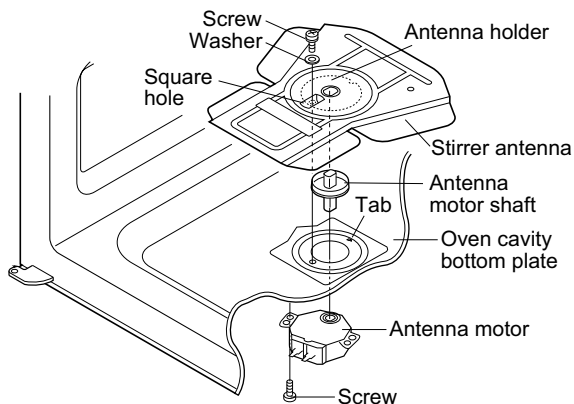

Figure C-8. Antenna Motor Shaft Removal
6. Remove the one (1) screw and the one (1) washer holding the antenna holder of the stirrer antenna assembly to the oven cavity bottom plate through the square hole of the stirrer antenna. Refer to Figure C-8.
7. Release the antenna holder from the one (1) tab of the oven cavity bottom plate.
5. Install the antenna holder to the oven cavity bottom plate with the one (1) screw and the one (1) washer. Refer to Figure C-8.
6. Install the antenna motor to the oven cavity bottom plate with one (1) screw. Refer to Figure C-8.
8. Install the base plate cover to the base plate with one (1) screw.